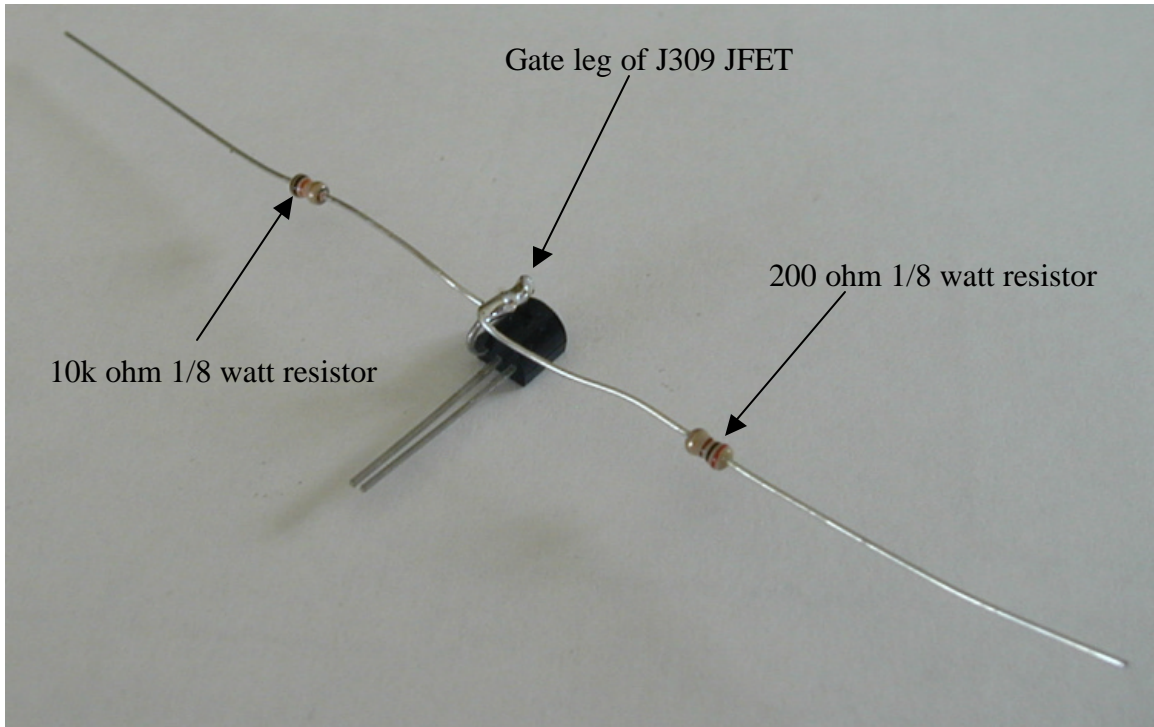

Figure 7: JFET and resistors prior to installation in upgraded SAVR circuit board
7. Solder the 200 ohm and 10k ohm resistors to the gate leg of the JFET as shown in **figure 7** below. The resistor values should be identified by colored stripes. The 200 ohm resistor will be red, black, brown, gold; and the 10k ohm resistor will be brown, black, orange, gold.